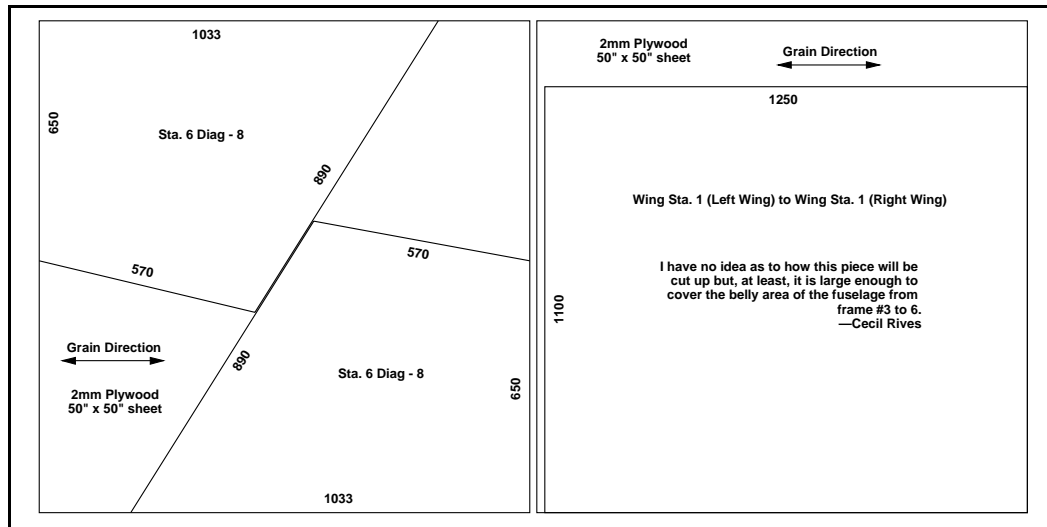

Figure 6
- ❑ Cut two 50" x 50" sheets of 2mm birch plywood as shown in Figure 6. On the skin for Sta. 6 diagonal to Sta. 8, Cecil mentioned that he cut the base side to 990, which worked but that you should make it as long as possible, preferably 1000 or more. It's shown as 1033 above.